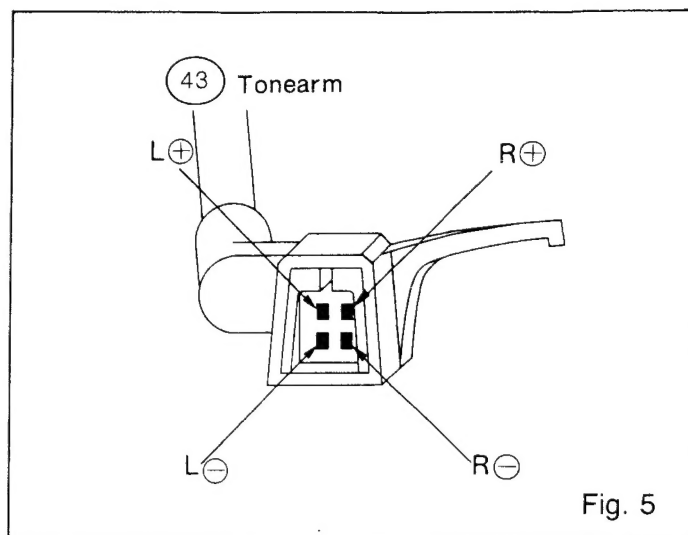
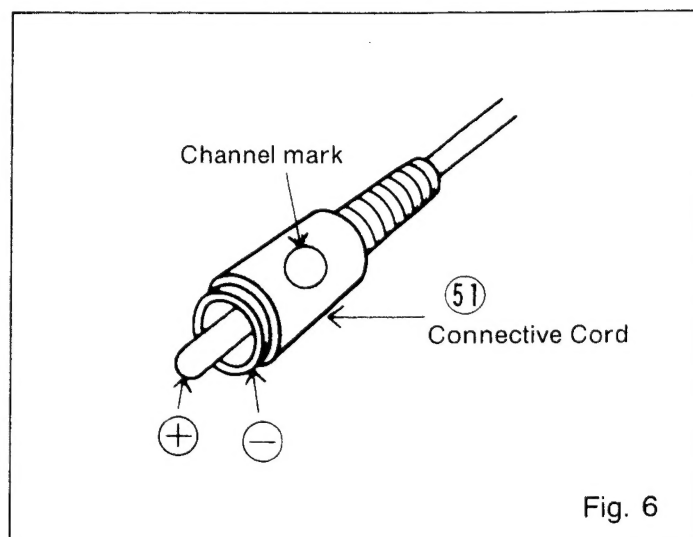

Fig. 5
Fig. 6
**Yes:** Check if Tonearm (43) returns when Tonearm (43) is moved to the center of a record.
**No :** Lever (31) is not correctly mounted.
4. Turntable (39) will not stop rotation.
- Check if the knob of Mini Switch (S001) is sufficiently pushed by Arm (32) when Tonearm (43) returns to Retainer Ass'y (16).
**Yes:** Check to see that the gap between Arm (32) and Mini Switch (S001) is adequate referring to ADJUSTMENTS 5.
- Removing Cartridge (42), touch the upper two terminals (L ⊖ and R ⊕) at the end of tonearm (43) with a metallic screwdriver and listen for the speaker to produce a humming noise (Fig. 5).
**Yes:** Cartridge (42) or Tonearm (43) lead-wires is defective
**No :** Perform continuity test between Tonearm (43) end and Connective Cord (51) on dead channel (Fig. 6).
**No :** Plug of Connective Cord (51) or terminal is connected incorrectly. Perform continuity test of input terminal of amplifier or receiver.